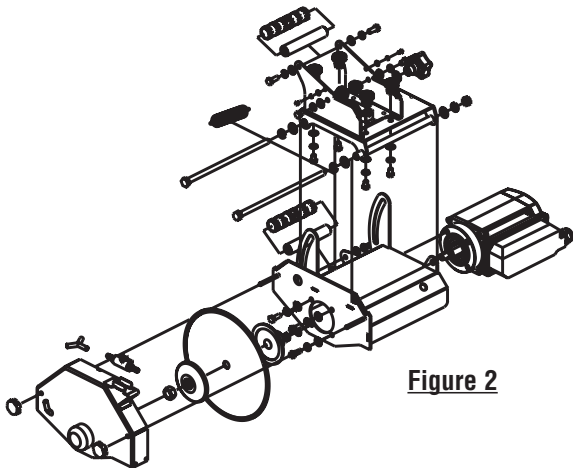

Figure 2
5. Insert the main long bolt in the upright of the front plate while holding the cutting head mainframe, lock it tight in position. Insert the second long bolt into the height adjustment slot and lock it tight in position. Place the tension spring into position for height adjustment. See figure 2.